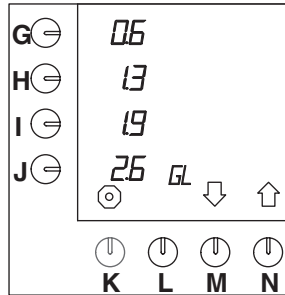

Fig. 29 Adjusting pre-programmed selection keys for gallons
- Press selection key (N.)↑ until fig.29 appears on the display.